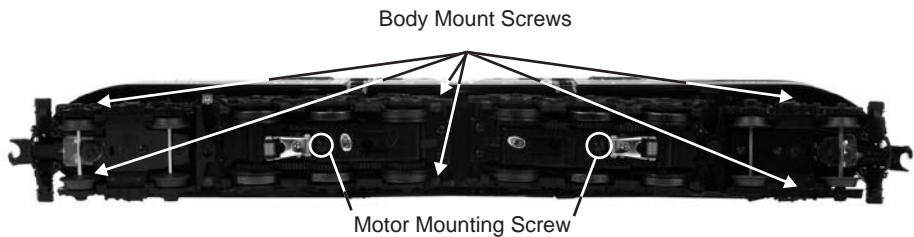

Figure 7. Body Removal Screw Locations and Motor Mounting Screws
1. To access the motor/gear box, remove the cab from the chassis by unscrewing the body mount screws as seen in Figure 7 and lifting the cab from the chassis.
2. Once the cab is removed, remove the trucks by unscrewing the black Phillips motor mount screw located on the underside of the drive trucks (see Fig. 7).